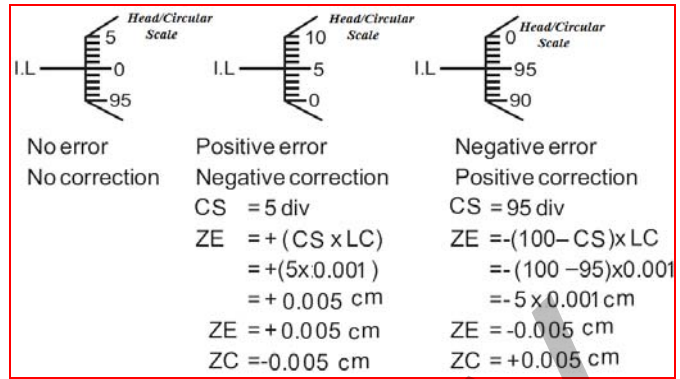

Fig.2
The type of error (ZE) and the suitable zero correction (ZC) for the given micrometer is determined with the help of fig.2.